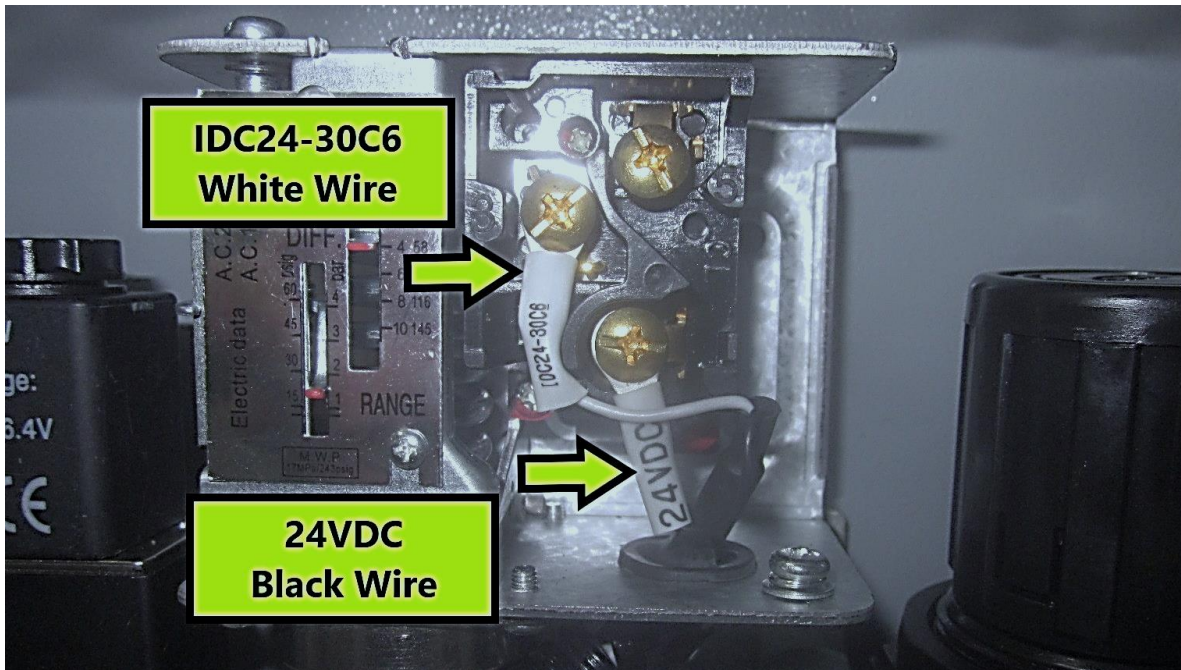

Figure 2.9.1.1 - Air Pressure Switch Electrical Connections
Air hose "A" and "B" connect from the left side to the main solenoid as shown. The orange hose connects to location "A" and the blue hose to location "B." (**Note** - *Be sure these are correct as problems with the ATC will occur if incorrectly installed.*) There are (2) two larger (10mm) black hoses to connect. The hose leading from a "T" fitting connects to location "C," a "Y" fitting connects below the pressure switch. Hose labeled "D" connects to the air blast solenoid, on the right-hand side of the panel. See figure 2.9.1.b
Remove the cover and install the loose wires IDC24-30C6 and 24VDC as shown in figure 2.9.1.1. Push the wire and shielding into the switch, using a zip tie to hold the wire and shielding inside the switch and prevent them from slipping out.